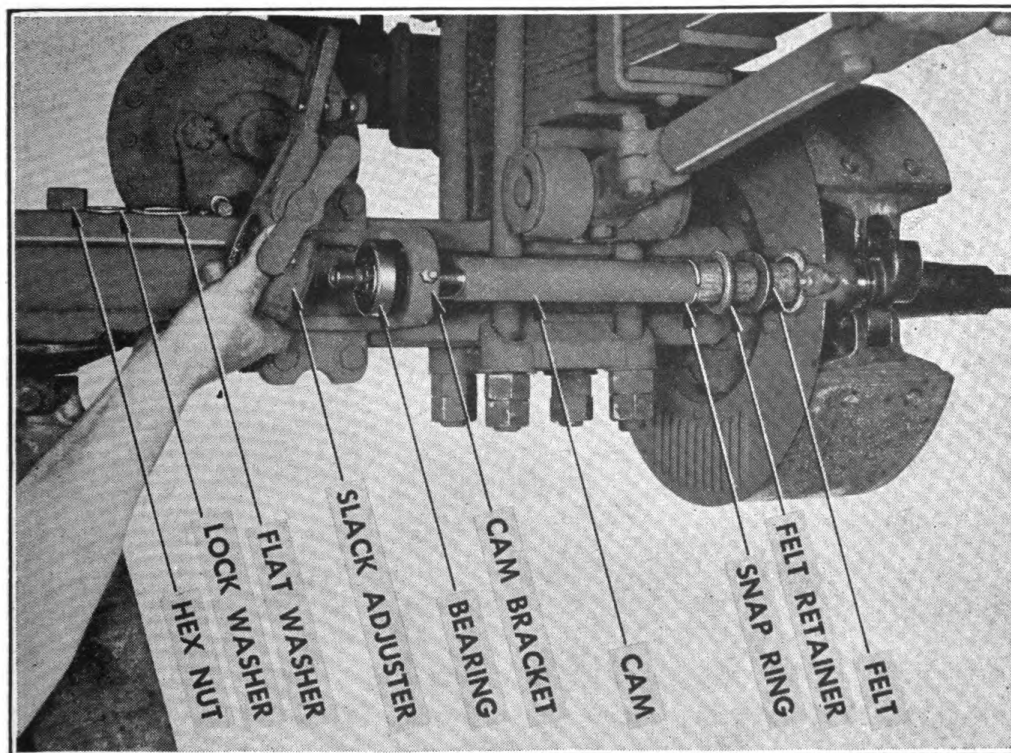

FIGURE 28. CAM ASSEMBLY.
7. CAMS (Fig. 28).—*a. Replacing cam.*—Cams come in rights and lefts. When replacing them, care should be taken to place the proper cam on the proper side. Cams are stamped on inner end with a number, even number is right, odd number is left.
(1) Remove the two bearings in each mounting plate adaptor either individually or both at one time by driving them out with a hammer.
(2) Place the new needle bearings into position and tap gently to start them evenly.
(3) Place pieces of flat wood against both brake adaptor and bearing and press the bearings into position with a C-clamp. Bearings should be flush with the outer edges of the adaptor.
(4) Inspect to make sure bearings do not cover lubricating hole.
c. Replacing Nice ball bearing in cam bracket.—(1) Remove the slack adjuster (paragraph 5, sub-paragraph 2, this section) (Fig. 28).
(2) Tap the outer side of the cam bracket and the ball bearing will usually work out.
(3) If this fails, remove the alemite fitting, insert a small screwdriver in the alemite fitting hole and pry outward against the bearing. Continue tapping the slack adjuster bracket with a small hammer.